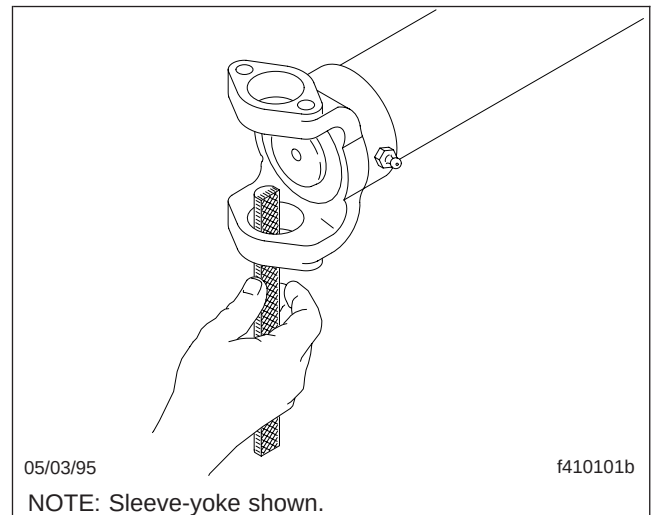
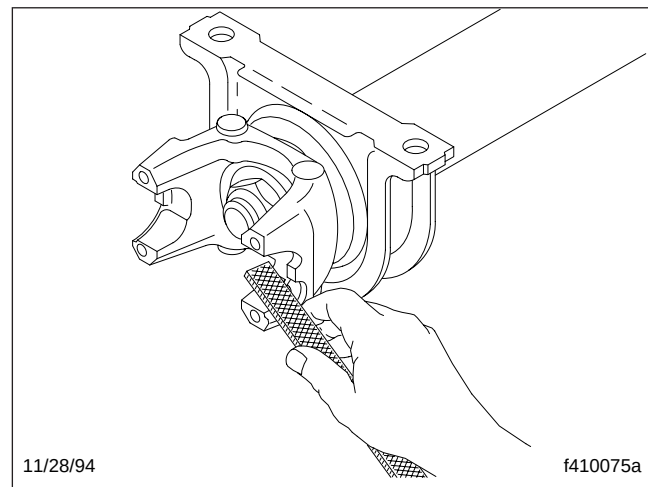

Fig. 3, Removing Burrs From a Full-Round Yoke Cross-Hole
Fig. 6, Removing Burrs From a Half-Round End-Yoke Cross-Hole
5. With the U-joint assemblies removed, check all driveshaft yoke cross-holes for raised metal. Using a rat-tail or half-round file, remove burrs or raised metal. See Fig. 3.
2. With the U-joints uncoupled from the end-yokes, check all driveshaft and input/output shaft end-yoke cross-holes for raised metal. Using a rat-tail or half-round file, remove burrs or raised metal. See **Fig. 3** for full-round yokes, or see **Fig. 6** for half-round yokes.